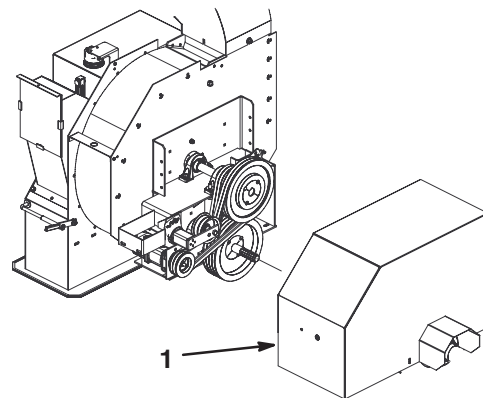

Figure 16
1. Loosen the capscrews and nuts securing the drive shield to the impeller housing (Fig. 16). Remove the shield.